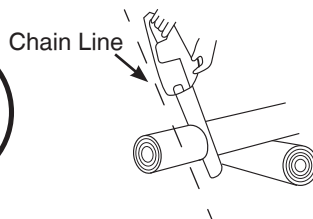

Fig. 15
(Fig. 15).
- Keep all body parts to the left of the chain line (Fig. 15).